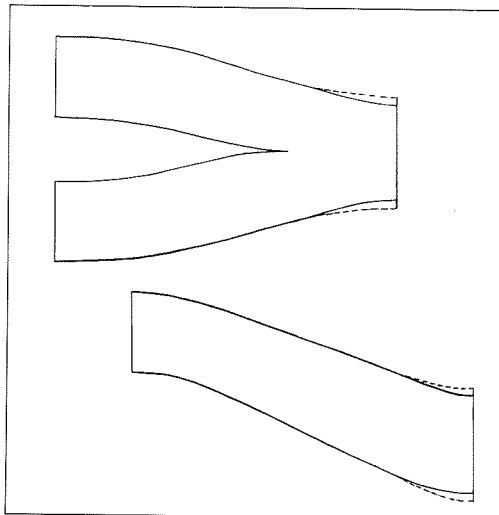

Fig 1. The duct profiles which dictated the final shape of the manifold.
THE Triumph GT6 has often been compared to the Jaguar E-type, sometimes unfairly, being referred to as the 'poor man's E-Type' (fig. 1). Both have exhilarating performance and gorgeous classic styling with long beautiful shaped bonnets. Under that forward hinging bonnet there is a lovely smooth and torquey straight 6 engine with that unmistakable exhaust note. However here the analogy disappears. Where are those magnificent triple SU carbs of the E type on the GT6?
5. With the manifold length and downwards sweep fixed, the port shape could be determined. Fig 1. To make the manifold more